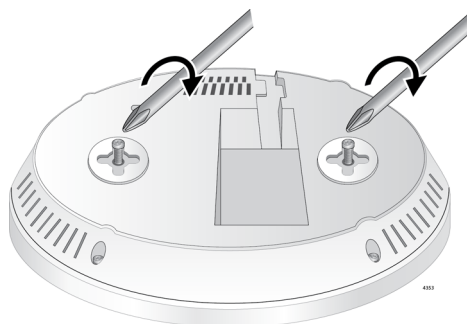

Figure 20. Attaching the Screws to the Access Point
3. Attach the two screws to the access point. as shown in Figure 20.